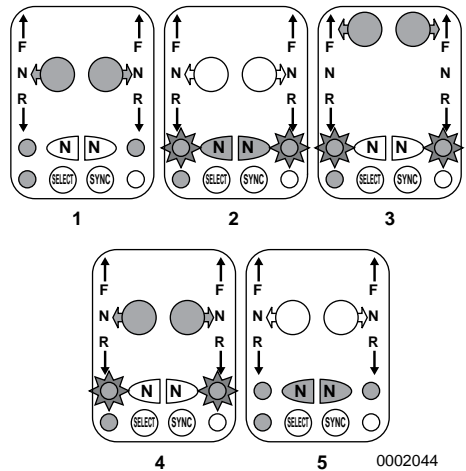

Figure 13
1. Return the handle(s) to N (neutral). The neutral light(s) glow steady **(Figure 13, (1))**.
2. Press the N (neutral) button(s) **(Figure 13, (2))**. The neutral light(s) flash (star around light(s) in **(Figure 13, (2))**).
3. Move the handle(s) to forward or reverse throttle **(Figure 13, (3))** resulting in engine rpm control without engaging marine gear.
1. Return the handle(s) to N (neutral) **(Figure 13, (4))**.
2. Press the N (neutral) button(s) **(Figure 13, (5))**. The neutral light(s) glow steady **(Figure 13, (5))**.